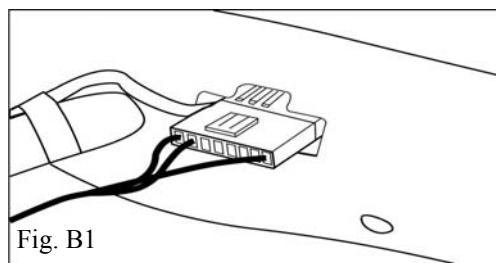

Fig. B1
1. Plug the wire harness 7-pin connector into the back of the mirror. (Fig. B1)